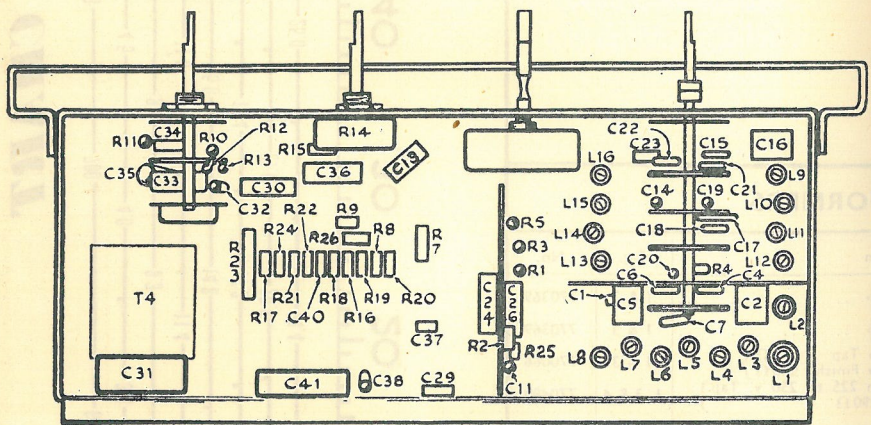

FIG. 4
- 1 A 100 division Trimming Scale, see Fig. 4, is printed on the back of the scale reflector plate for use when trimming the receiver outside the cabinet. With the Gang fully closed, a mark should be made on the secondary pointer carriage to line up with O division; this will serve as an index for the scale. A Calibration Chart is printed on page 2. When no accurate frequency standard is available the receiver should be calibrated against a reliable broadcasting station operating on a wavelength close to that specified in the Trimming Procedure. After the alignment has been carried out and the chassis refitted in the cabinet, the pointer should be lined up with the spots to be found at the right-hand end of the top and bottom tracks of the tuning scale.